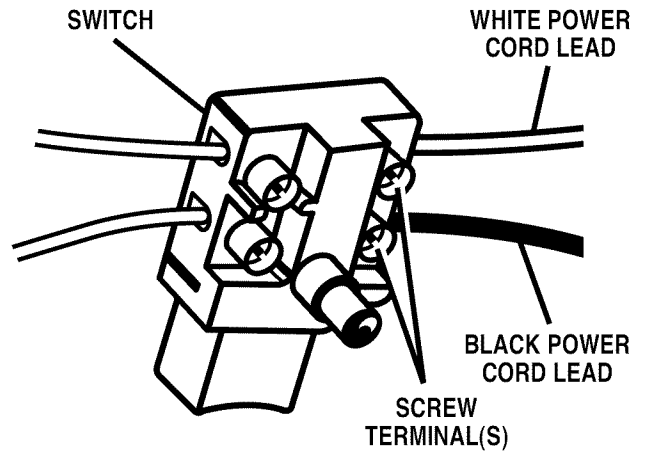

Fig. 15
- Using a small flat blade screwdriver, loosen the screw terminal for each power cord lead. See Figure 15.